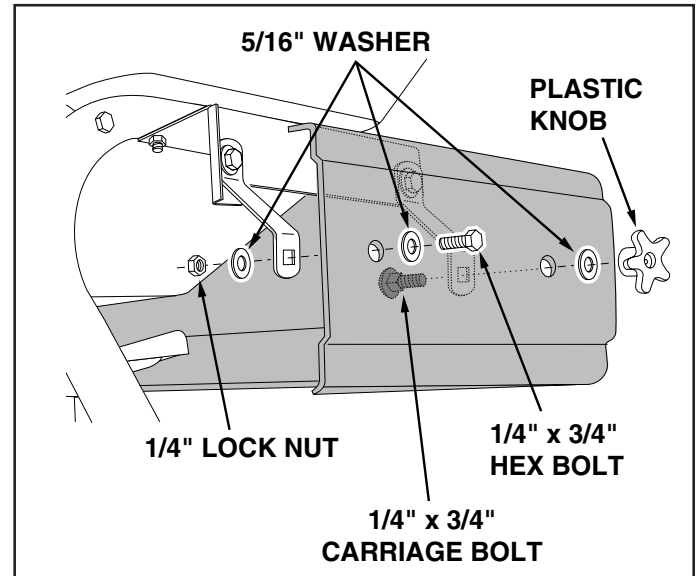

FIGURE 13
28. Assemble the spreader shield to the front swivel brackets using two 1/4" x 3/4" carriage bolts, 5/16" washers and the two 1/4" plastic knobs. See figure 13.
29. Assemble the spreader shield to the rear swivel brackets using two 1/4" x 3/4" hex bolts, four 5/16" washers and two 1/4" hex lock nuts. **Tighten** the locknuts so that the swivel bracket can still pivot freely. See figure 13.